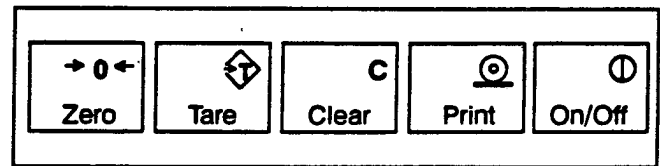

Figure 2
2.1.2. The keyboard used on the Model 8505 is a five position membrane keyboard utilizing graphic symbols. An illustration of the keyboard is shown in Figure 2. Refer to Section 4.2.4 for descriptions of keys.